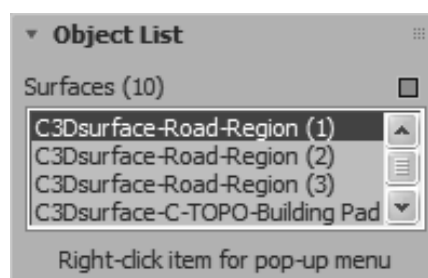

Figure 3–9
1. Verify that the *Civil Explorer* tab is selected. Expand **Civil View Objects>Imported Objects**, if not already expanded. Select **Surfaces** and note that the corridor is selected in the viewports. The *Object List* rollout opens with all of the surfaces listed, as shown in Figure 3–9.